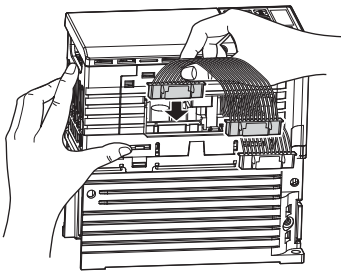

Figure 10 Plugging the Option Connection Cable into the Drive (PS-V10S)
2. Next, plug the supplied 24 V Power Supply Option connection cable into the drive cable socket and click firmly into position as shown in *Figure 10*.